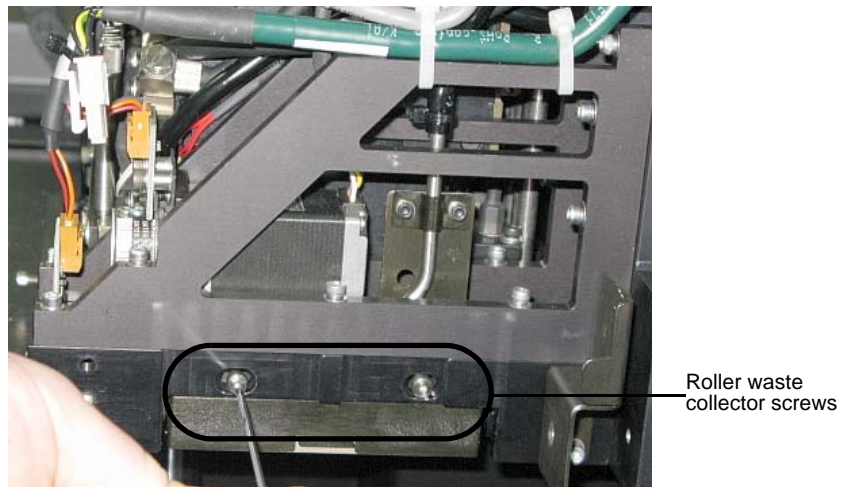

Figure 7-32: Removing the roller waste collector covering
7. Return the roller waste collector to the print block and screw on the covering (see figure 7-32 on page 7-27).